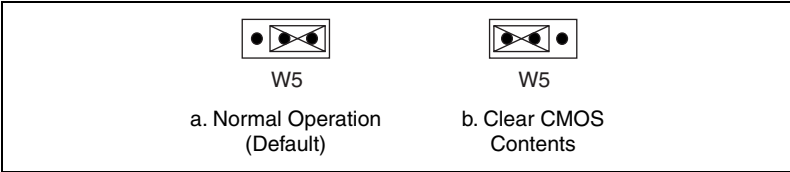

Figure 3-2. System CMOS
3. Move the jumper on W5 from pins 1–2 to pins 2–3 as shown in Figure 3-2.